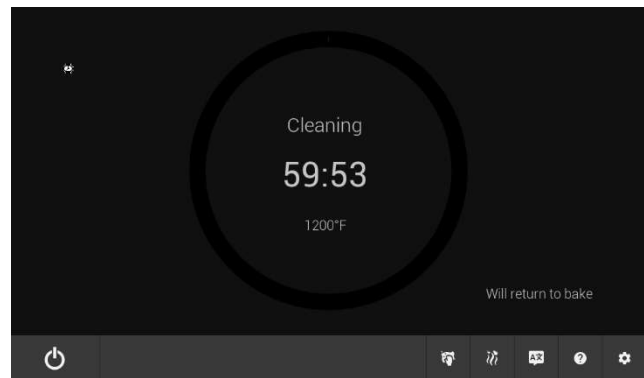

Figure 24.
2. During self-clean, the oven will obtain a high temperature, the conveyors will crawl at a slow speed, and a timer will begin. After the timer has expired, the oven will return the previous oven state. If heat was on (the oven was in the Preheat or Bake states), the oven will return to the preheat state. If heat was off (the oven was in Cooldown or Off states), the oven will return to the cooldown state. See Figure 24.